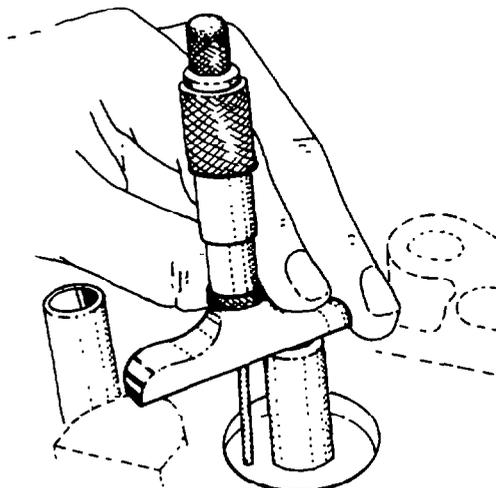

Fig. 22 — Measuring Guide Extension
e. Invert the cylinder head and check the extension of the guide from the deck to the end of the guide for the correct distance of 39.2887 mm (1.5468 in.) (see fig. 22).